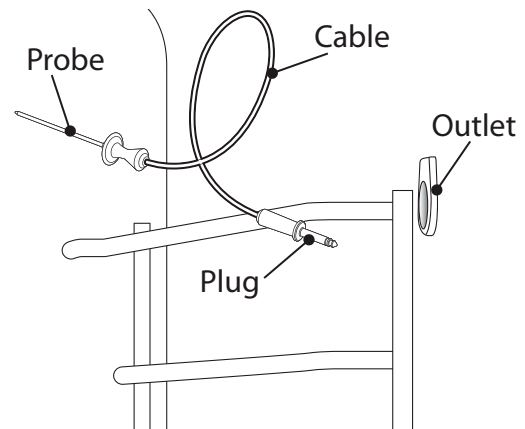

Figure 28: Meat Probe
1. In the large oven, or in the small oven on select models, locate the outlet (Figure 28).